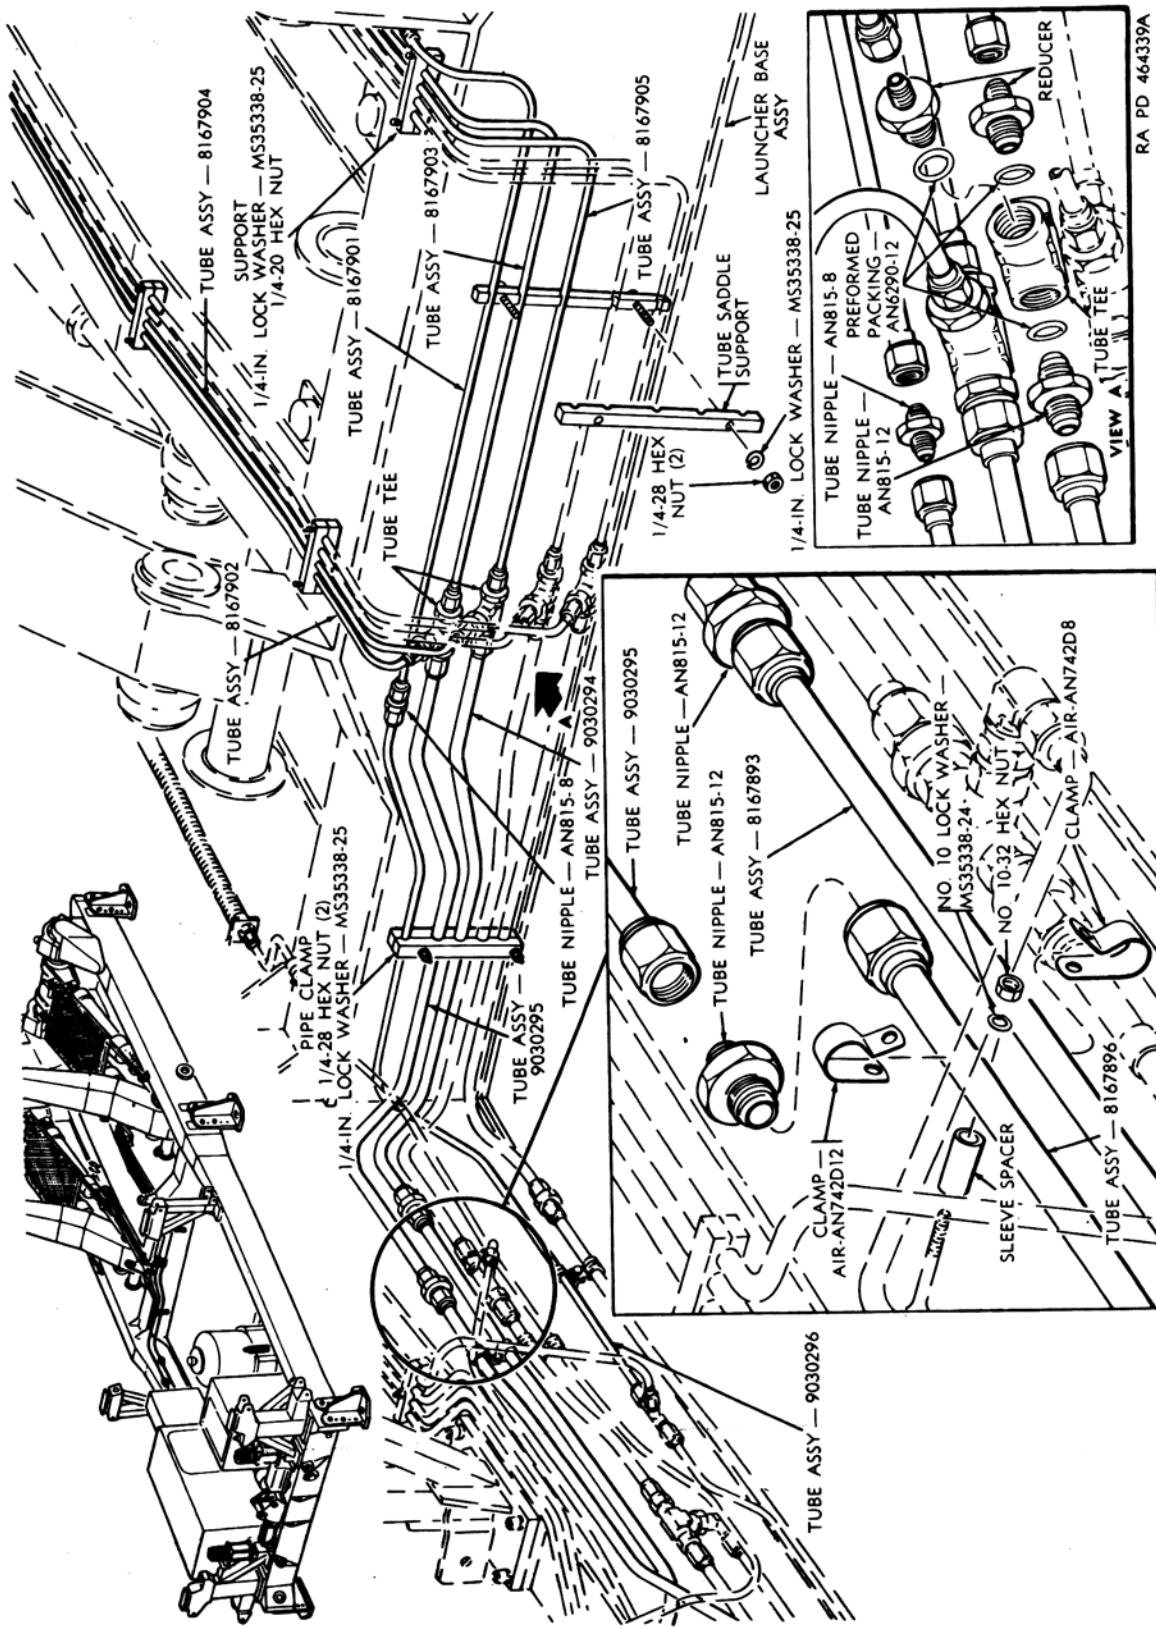

Figure 195. Equilibrator system hydraulic network—removal and installation—continued.
- (3) Depressurize the hydraulic oil reservoir by turning the handle of the plug cock to the VENT position and holding until all pressure is discharged.
- (4) Remove clamps (fig. 195), pipe clamp, and tube saddle support.
- (5) Remove tube assemblies, tube nipples, reducers, and tube tees to be replaced; cap all open lines.